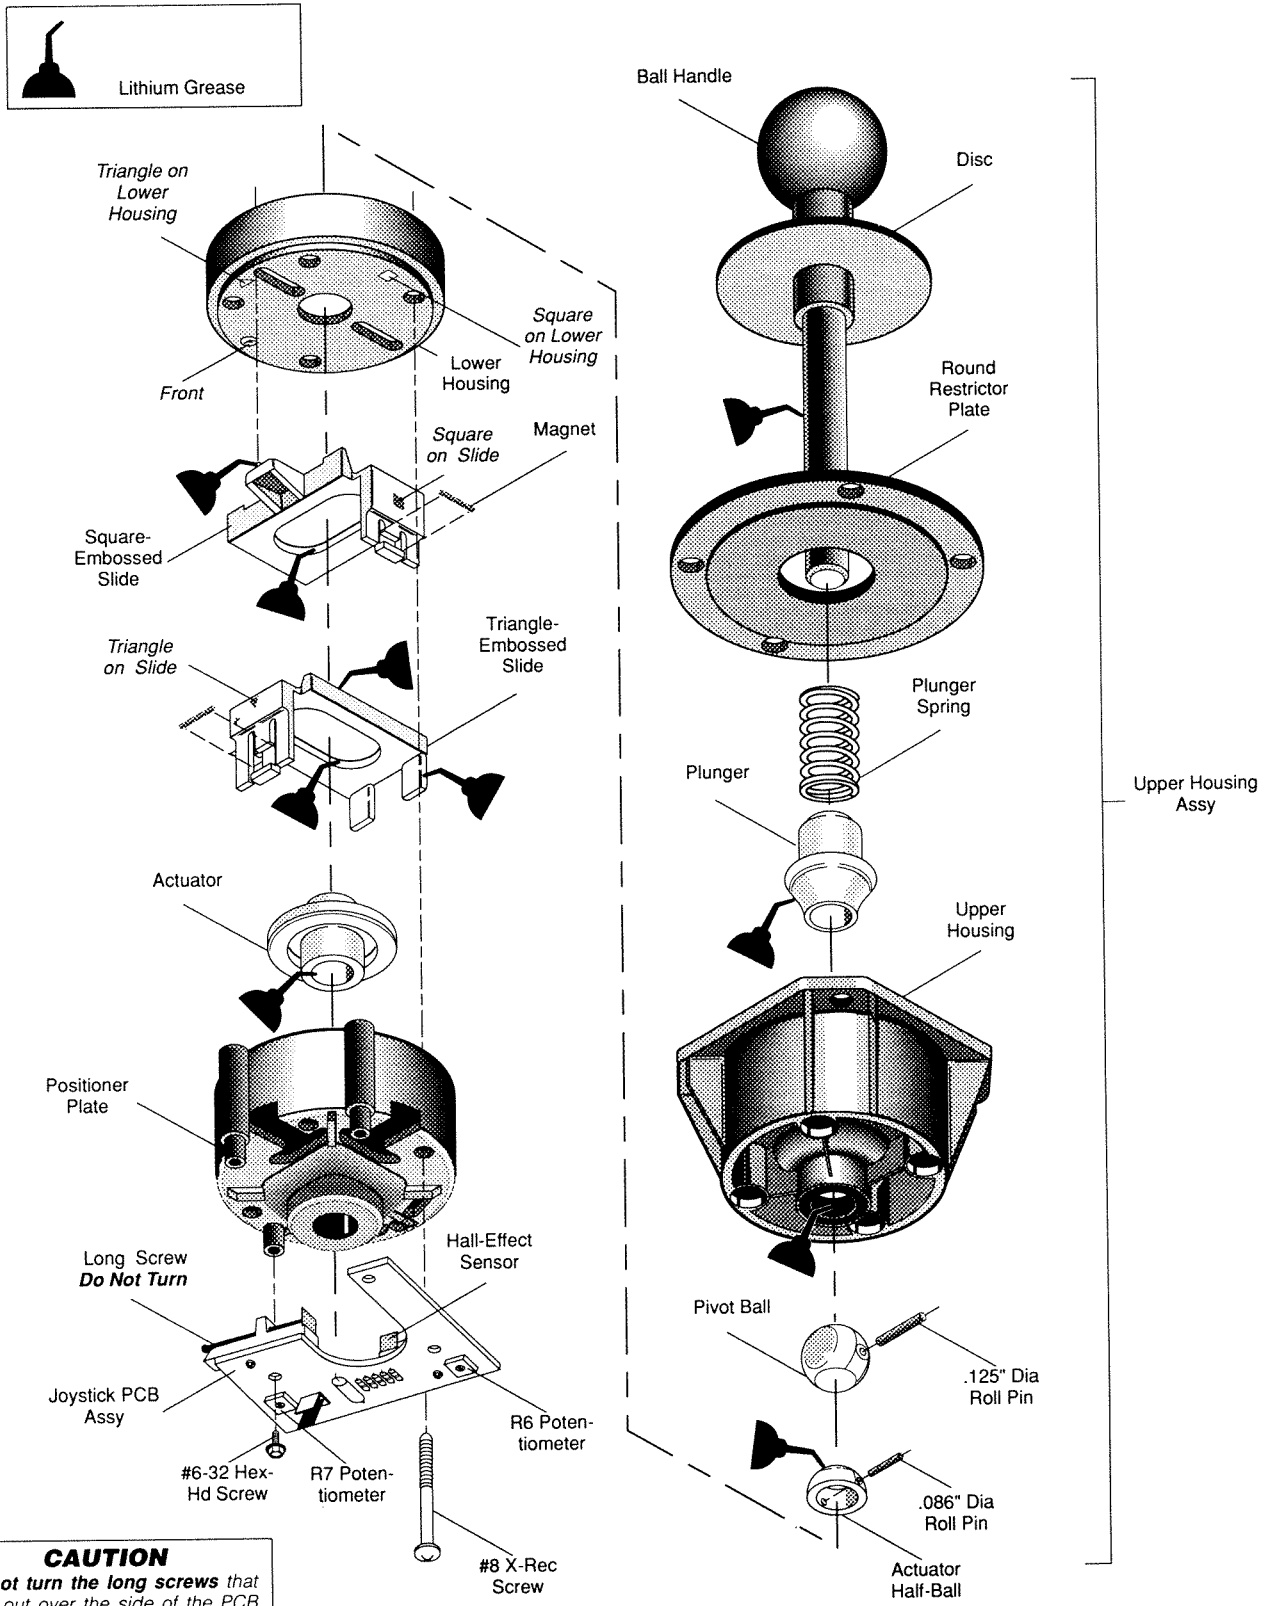

Figure 3-1 Maintaining the Joystick
2. Open the control panel and disconnect the harnesses connector. See Figure 3-1.
19. Install the joystick assembly on the control panel. Put the carriage bolts through the four holes. Use a 3/8-inch hex driver to tighten the four nuts holding the joystick assembly to the control panel. (See Figure 3-1.)
Perform the following procedure to remove and disassemble the joystick control. (See Figure 3-1.)
Perform the following procedure to reassemble the joystick assembly. (See Figure 3-1.)
- Slide the spring on the shaft. Push the large end of plunger onto the shaft and over part of the spring (see Figure 3-1).
- Make sure the two small round tabs on the bottom of the slide fit into the two slots in the lower housing. See Figure 3-1.